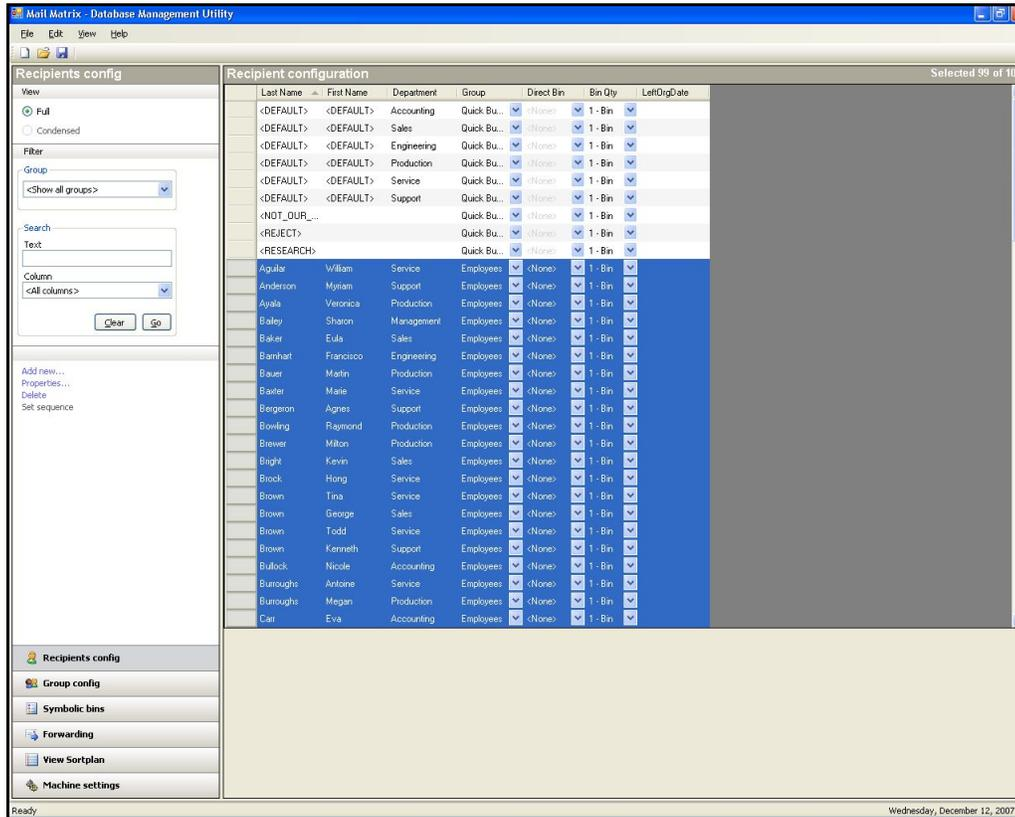

Figure 169: Add recipients to the Employees group
9. Select the recipients you want to add to the Employees group you created in step 3, then click **Properties...** Add the selected recipients to the Employees group (Figure 169).